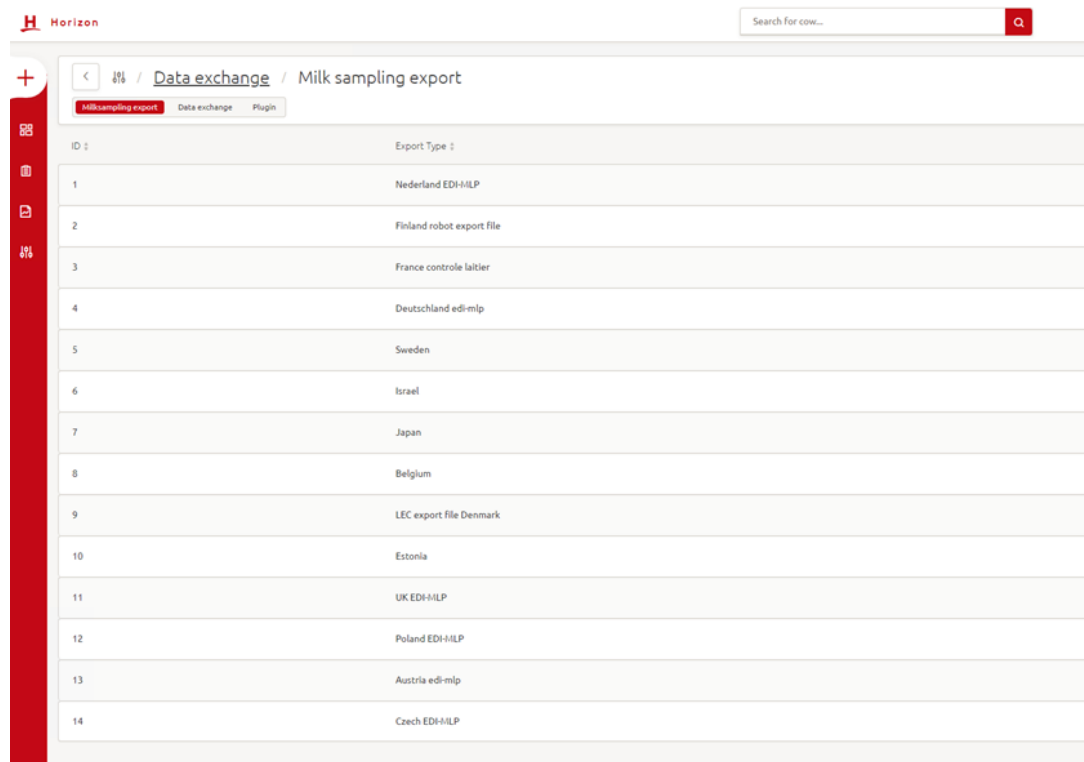

Figure 45. Select the export type of the required country
3. Choose the export type of the required country see figure 45